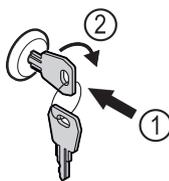

Fig. 190
- ▶ Insert the key. Fig. 190 (1)
- ▶ Turn the key clockwise by 90°. Fig. 190 (2)